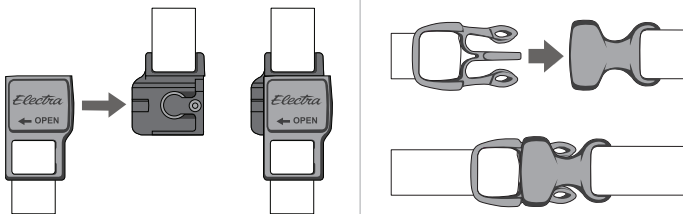

Figure 10. Chinstrap Buckle Unfastened and Buckle Fastened
2. Connect the right-hand buckle to the left-hand buckle (Figure 10).